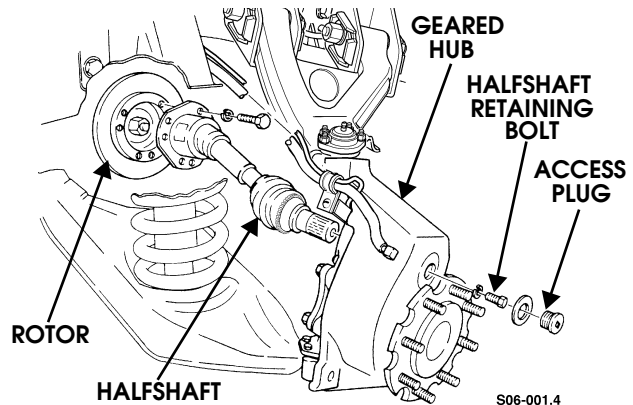

Figure 9-22: Halfshaft and Geared Hub
6. Apply thread-locking compound to halfshaft retaining bolt and secure halfshaft to geared hub with lockwasher and halfshaft retaining bolt. Tighten halfshaft retaining bolt to 37 lb-ft (50 N•m) (Figure 9-22).